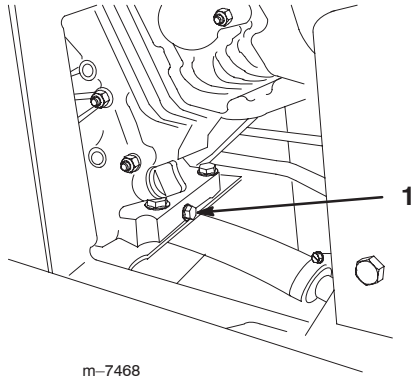

Figure 44
- Remove the drain plug (Fig. 44).